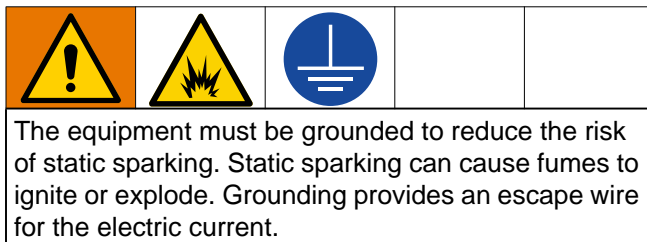

**Fig. 1: Typical Installation and Component Identification**
See FIG. 1. Air controls are included with all packages.
Install the following accessories as shown in FIG. 1, using adapters as necessary. Use thread sealant on male threads.
Install the following accessory as shown in FIG. 1, using adapters as necessary. Use thread sealant on male threads.
1. Refer to **FIG. 1**, page 6. Lock the gun trigger (W) with the safety latch. Remove the spray tip from the wand (Z). Refer to your gun manual.
2. Close the pump air pressure regulator (E) by turning the knob counterclockwise and reducing the pressure to zero. Close the bleed-type master air valve (C). Also verify that all drain valves are closed.
3. Connect the air line to the bleed-type master air valve (C).
5. Position the supply container close to the pump. The suction hose (N) is 4 ft (1.2 m) long. Place the hose inside of the supply container. Do not stretch the hose tight; let it hang to assist the fluid flow into the pump.
6. Hold the metal part of the wand (Z) firmly to the side of the grounded supply container. Unlock the safety latch on the gun trigger (W) and hold the gun trigger open.
7. Open the bleed-type master air valve (C). Slowly turn the pump air pressure regulator (E) clockwise, increasing pressure until the pump starts.